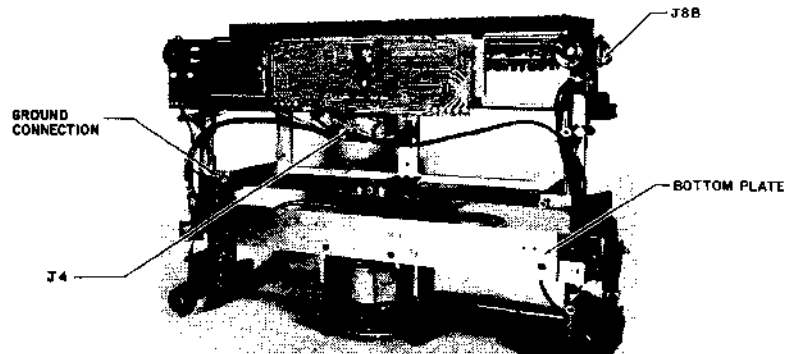

Figure 5-15 PREPARE CARRIAGE CABLES FOR REMOVAL
Refer to Figure 5-15.
- 6b. This step applies only to those printers with the optional bottom feed paper chute installed. Refer to Figure 5-15.